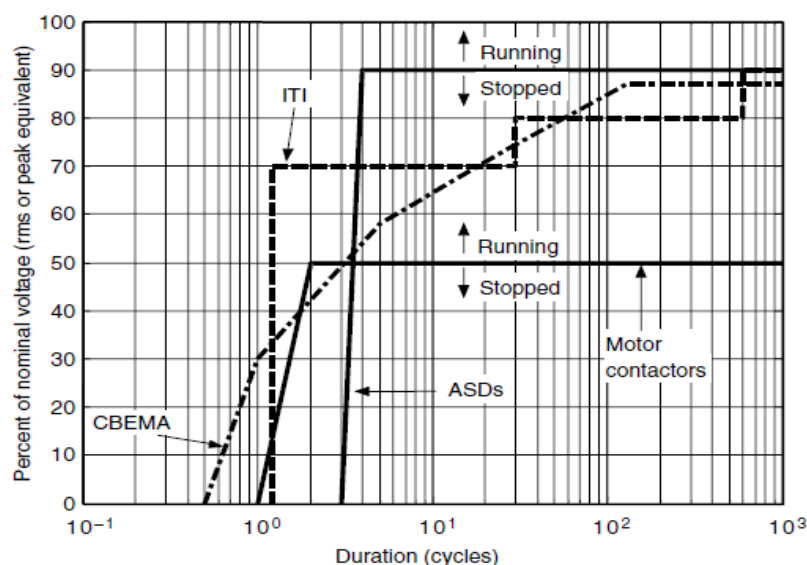

Fig 1.4 Magnitude versus Duration plot/ Equipment voltage sag ride- through capability curves
- One of the most common methods to quantify equipment susceptibility to voltage sags is using a magnitude-duration plot as shown in Fig 1.4.
- The curve shown in Fig 1.4 shows voltage sag ride through capability for a ASD that is very sensitive to voltage sags.